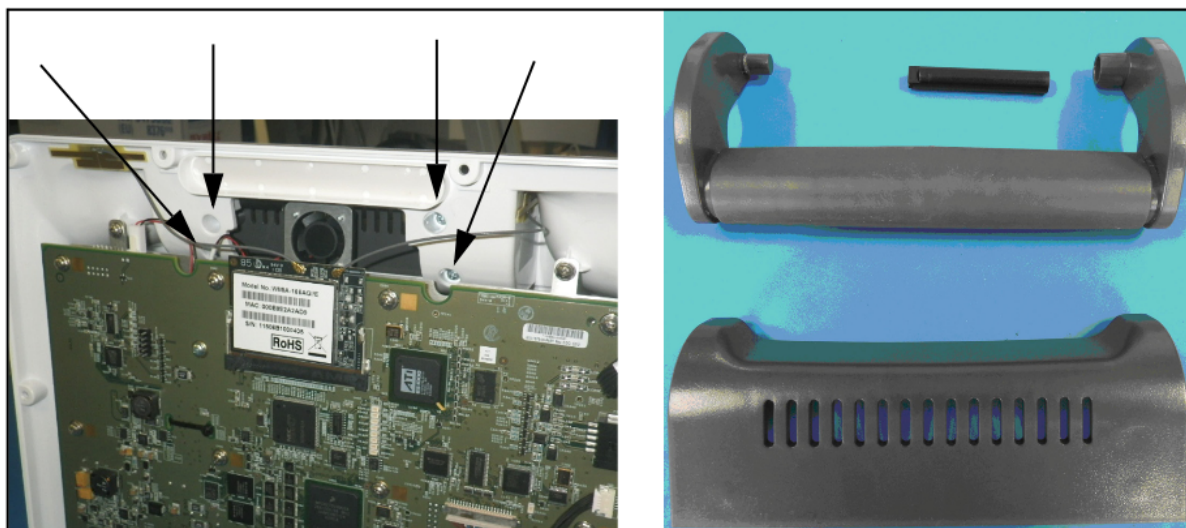

Figure 4-21 Handle
- 2 Remove the four screws on the handle cover as shown here Figure 4-21 on page 4-26.